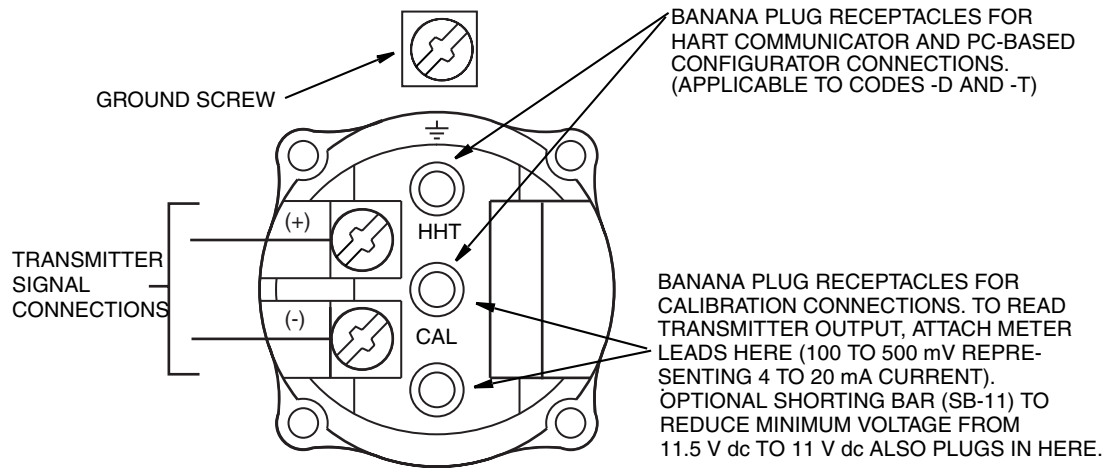

Figure 31. Identification of Field Terminals
The field terminals on a transmitter with a 4 to 20 mA output signal are shown in Figure 31.
6. Connect the power supply and receiver loop wires to the “+” and “–” terminal connections shown in Figure 31.
5. Connect an ground wire to the ground terminal in accordance with local practice. Ground terminal is shown in Figure 31.